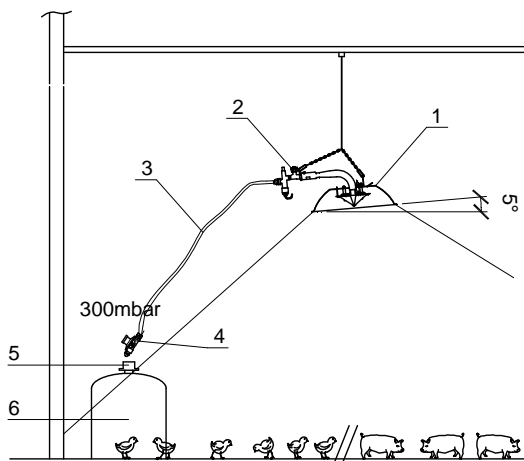

Fig. 23
El Kit MiniFarm está compuesto por (Fig 23):
Mini Farm Heating Kit is composed of (Fig 23):
- 1- Assemble all the components by means of the nuts of the flexible tube, as shown in Fig. 23. Make sure that gaskets are in good conditions..
Le Kit Mini-Farm se compose de (Fig 23):